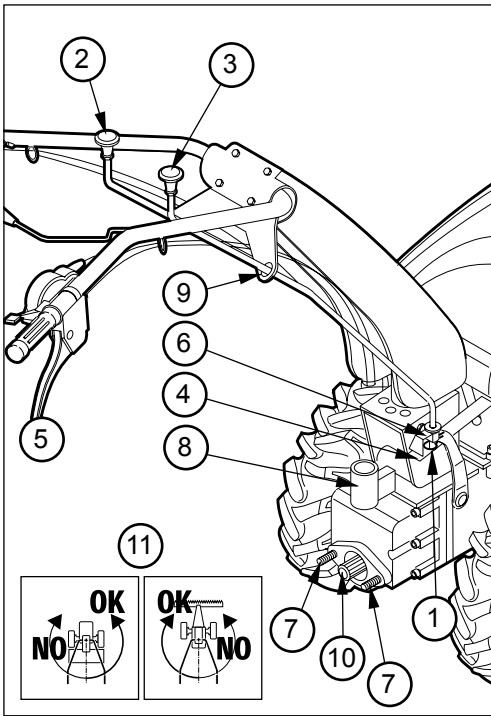

Fig. 5
**Figure 5 - Reversing handlebars.** - 1) Spring pin locking rods. - 2) Auction engaging / disengaging the PTO. - 3) Rod gearchange. - 4) Position rod ends. - 5) Locking lever and handlebars side adjustment. - 6) Point coupling rod lever. - 7) Fixing screws interchangeable equipment. - 8) Connections for trailers. - 9) Through holes of support rods. - 10) PTO shaft. - 11) Adhesive signaling the direction of rotation for the reversal of the handlebars.